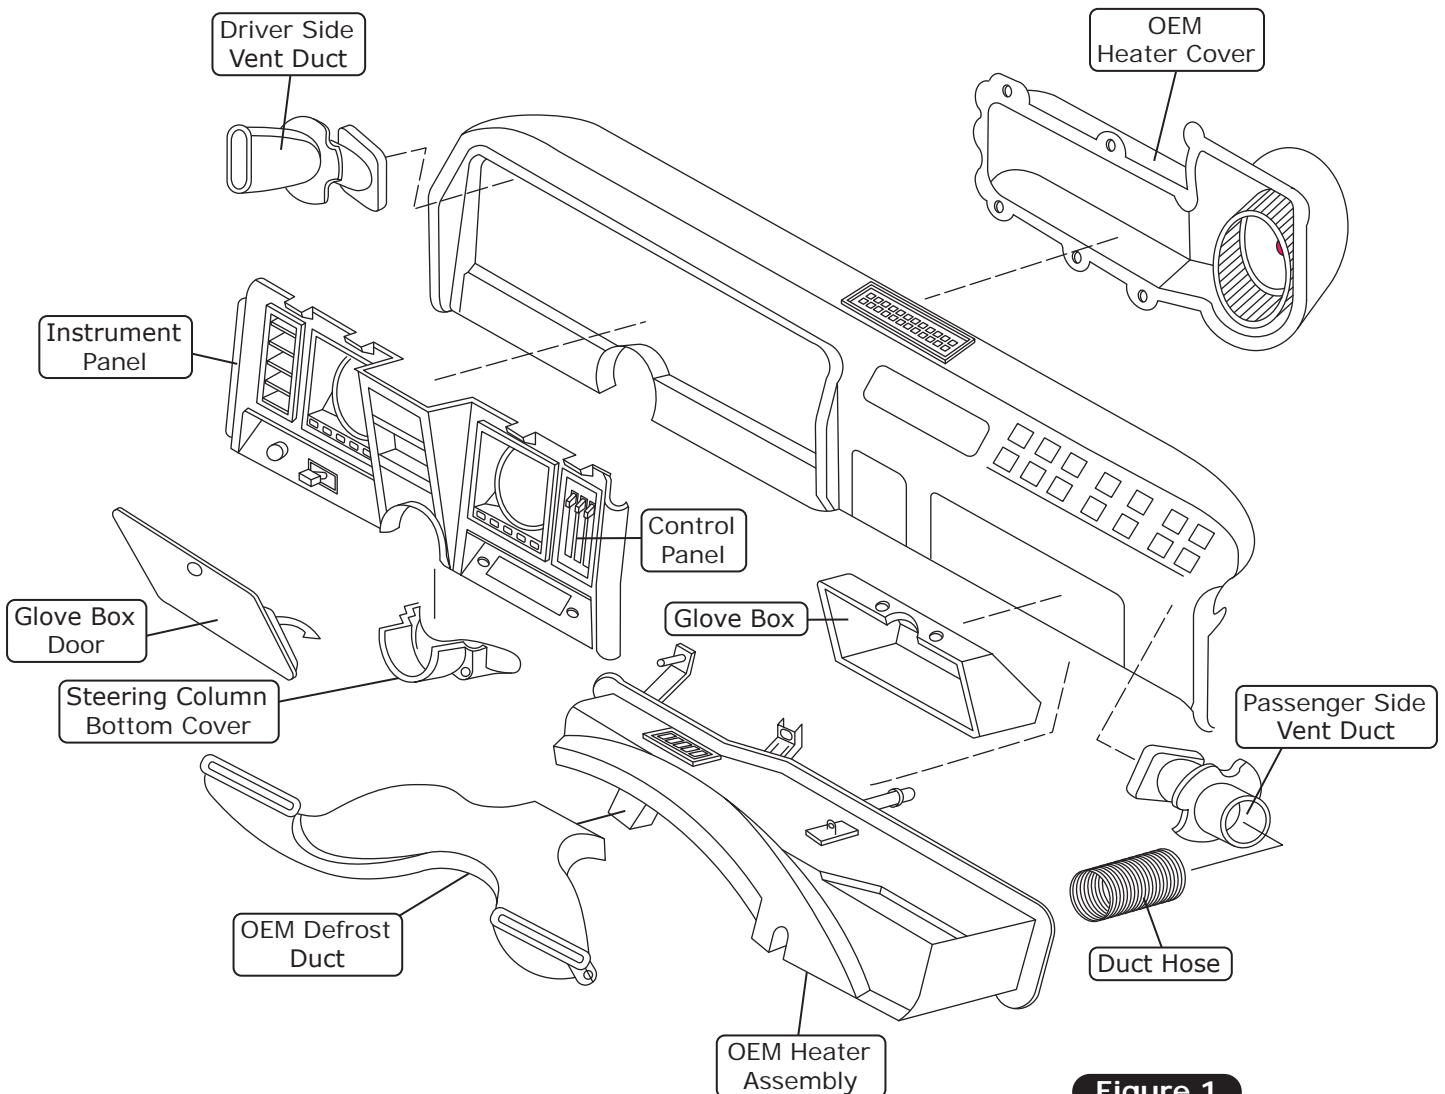

Figure 1
6. Remove the glove box door (retain) (See Figure 1, below).
7. Remove the glove box (discard) (See Figure 1, below).
8. Remove the instrument panel (retain) (See Figure 1, below).